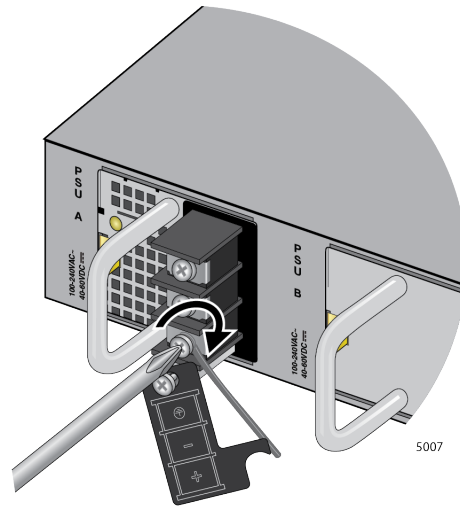

Figure 45. Wrapping the Grounding Wire and Tightening the Screw
5. Wind the grounding wire clockwise around the base of the grounding screw. Refer to Figure 45.